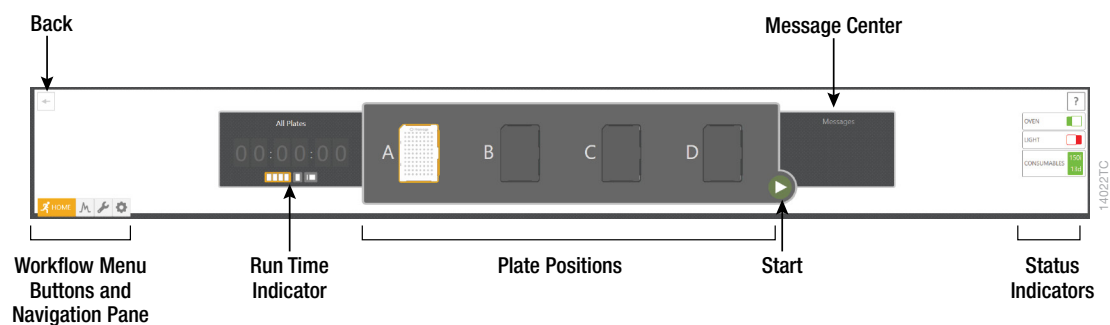
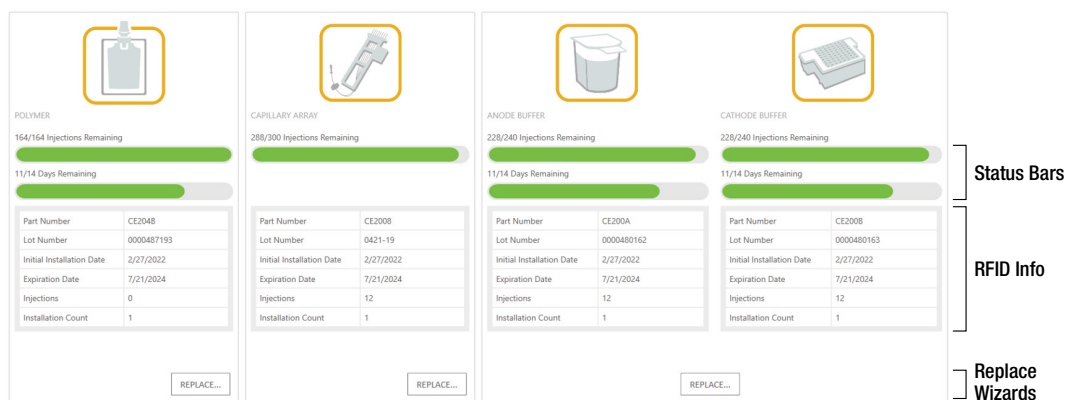

Figure 2. Header.
Figure 3. 'Consumables' screen.
The Header (Figure 2) is fixed and remains available to the user throughout all navigation processes. This area contains Status Indicators, Message Center, Start Button, Run Time Indicator and Workflow Menu. The Header also shows the status of the plate positions within the Plate Drawer.
Before starting a run, ensure all consumables are installed and in sufficient supply. For best results, use unexpired reagents that are within the recommended use range. Refer to the 'Consumables' screen (Figure 3) to determine if any consumables need to be replaced. To access the 'Consumables' screen, select the **Consumables** status indicator in the Header on the SCS screen (Figure 2). The 'Consumables' screen (Figure 3) displays information for the four RFID-tagged consumables on the instrument: Polymer, Capillary Array and Anode and Cathode Buffers.
Select the **Oven Heater Indicator** in the Header (Figure 2) to start preheating the oven to 60°C. The oven temperature will be displayed in the status bar at the bottom of the screen and the indicator will change from red to green when the oven preheating is complete.
3. Confirm the drawer handle light is illuminated, indicating that the drawer is unlocked and ready for plate loading. The Drawer Status indicator is in the Message Center located in the Header (Figure 2)